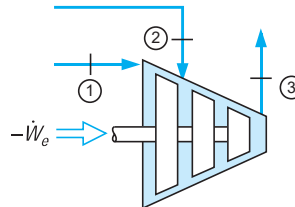

FIGURE P6.77
6.77 A compressor receives 0.05 kg/s R-410a at 200 kPa, -20°C and 0.1 kg/s R-410a at 400 kPa, 0°C . The exit flow is at 1000 kPa, 60°C , as shown in Fig. P6.77. Assume it is adiabatic, neglect kinetic energies, and find the required power input.